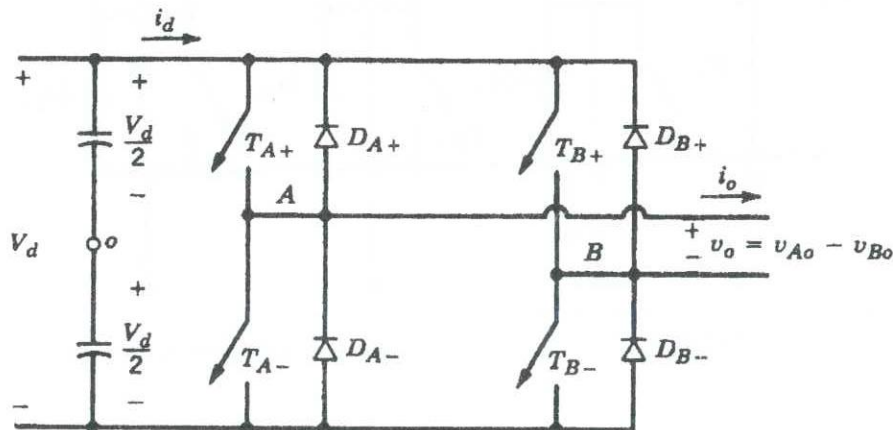

Figure Q4: Single-phase full-bridge inverter.
- b) The single-phase full-bridge inverter shown in Figure Q4 uses PWM with bipolar voltage switching to obtain ac output voltage. The circuit's input voltage V_d is a 120 V dc supply. Its fundamental frequency of the output voltage is 50 Hz and the switching frequency f_s is 400 Hz. At a certain operating point, the inverter's amplitude modulation ratio m_a is 0.6.